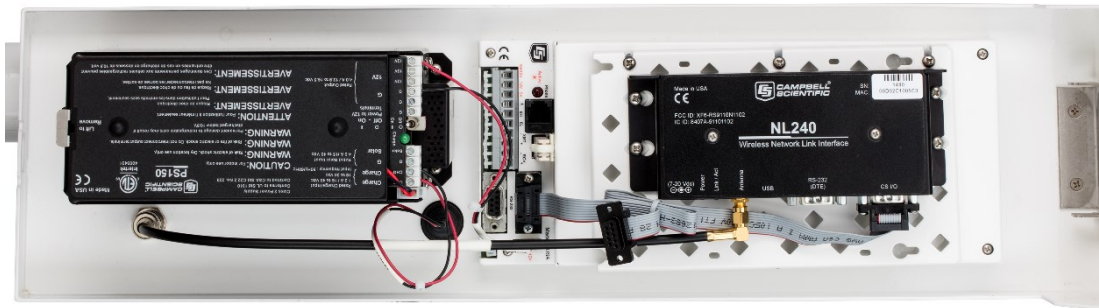

FIGURE 6-39. Wi-Fi modem mounted inside the ET107
3. Attach the other end of the cable to the BNC RF bulkhead connector in the lower right corner of the enclosure. Make sure all connections are tight (FIGURE 6-39 (p. 57)).
4. Use the ribbon cable to connect the **CS I/O** port on the NL241 to the **CS I/O** 9-pin port on the ET107 (FIGURE 6-39 (p. 57)).